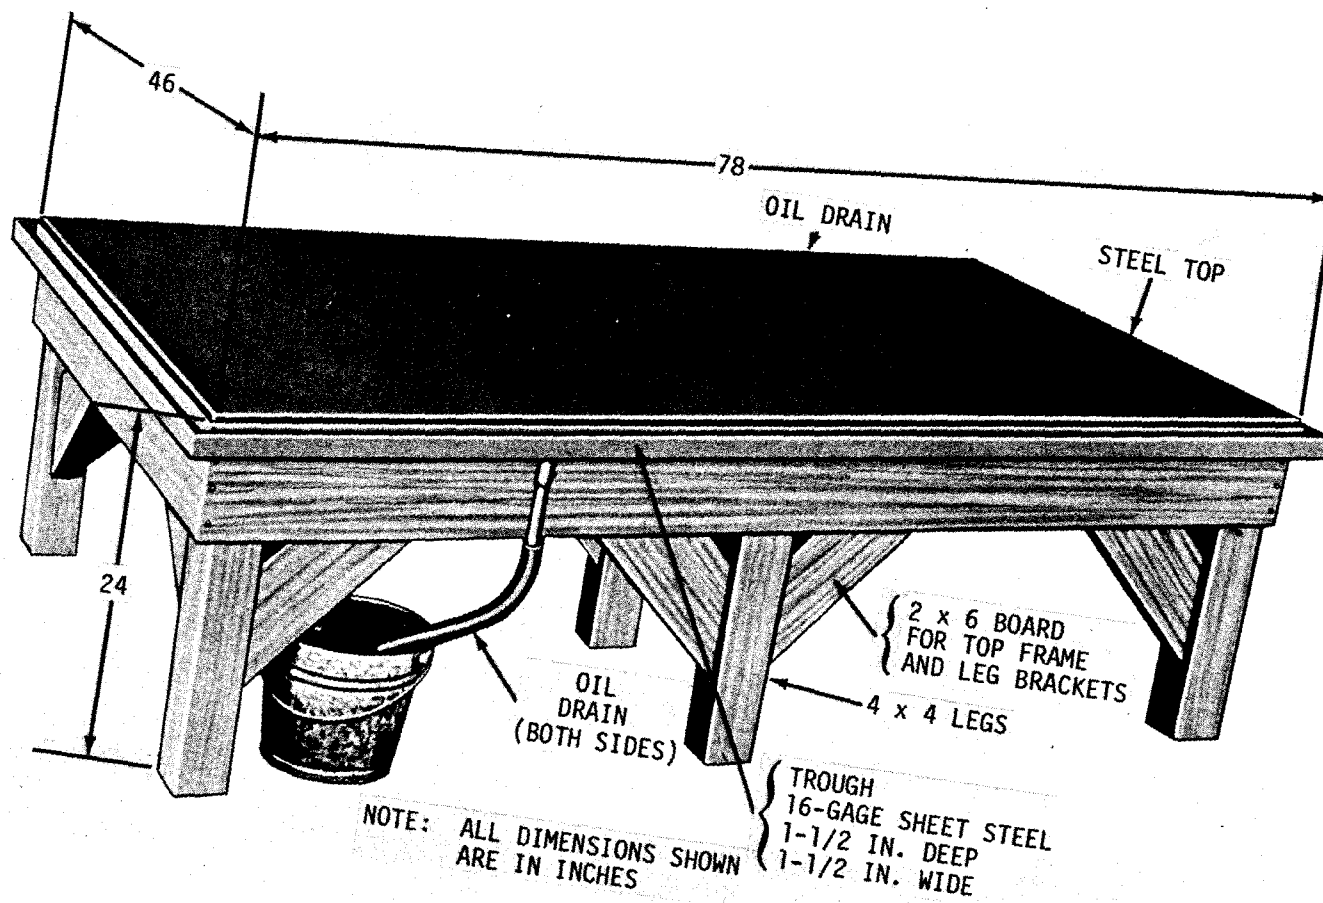

Fig. 4-6. Transmission disassembly and assembly table
**b. Equipment Needed.** Before overhaul is started, proper equipment should be available—a suitable hoist (2-ton capacity), proper hand tools, receptacles for small parts, an arbor press, and a transmission work table (fig. 4-6).